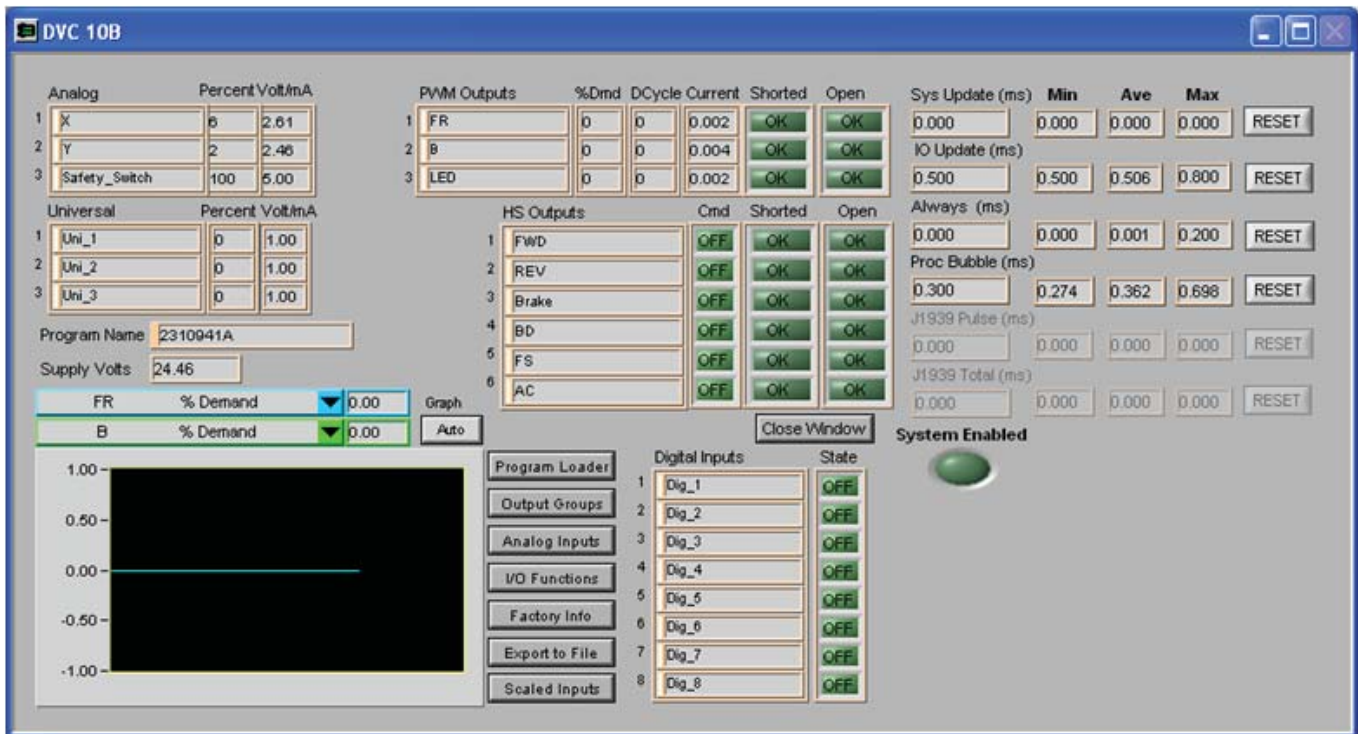

Figure 3-32 DVC10 Monitor Window
15. Click the “Close Window” button on the right of the screen to bring up the Main Menu window to exit the Monitor (see Figure 3-32). Select the Quit button to exit the Program Loader.